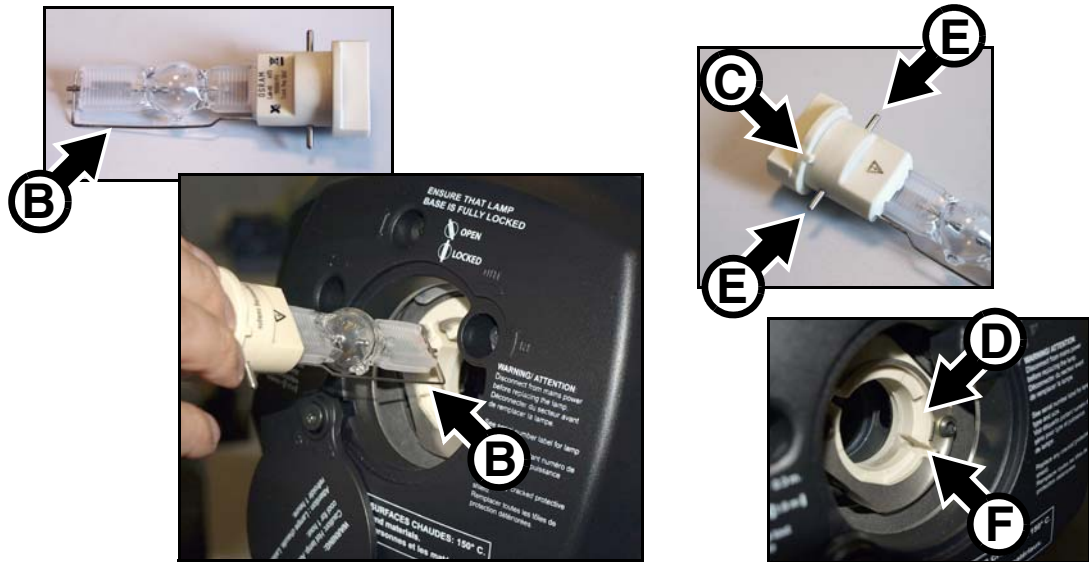

Figure 10: Lamp removal / refitting
5. See Figure 10. Hold the replacement lamp so that the external wire **B** is facing downwards, towards the bottom of the head. Line up the key **C** in the lamp base with the keyway **D** in the lamp socket and line up the contacts **E** on the lamp base with the slots **F** in the lampholder. Slide the lamp into the fixture until the contacts are fully inserted in the slots, then twist the lamp base a full 45° clockwise until it locks into position with a noticeable click. The lamp is a stiff fit, and trying to strike a lamp that is not correctly installed can cause damage that is not covered by the product warranty, so ensure that the lamp is correctly locked into position.